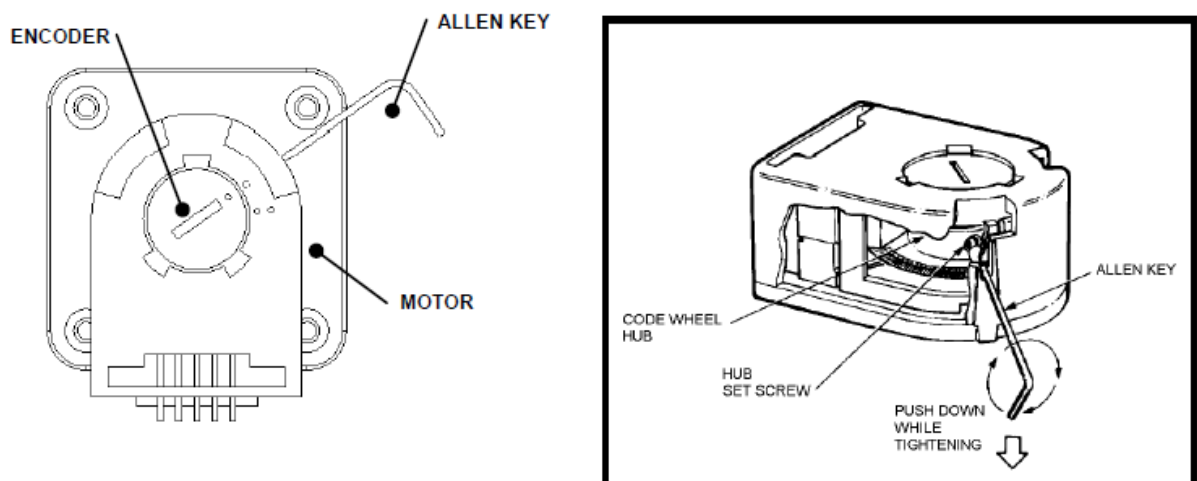

Figure O-31: Setting the Encoder
4. Push the Allen Key into the body of the encoder to ensure that it is properly seated into the code wheel hub set screw. Then, apply a downward force on the end of the Allen Key. (This sets the code wheel gap by levering the code wheel hub to its upper position.) While continuing to apply a downward force, rotate the Allen Key to the clockwise direction until the hub set screw is tight against the idler shaft. Remove the Allen Key by pulling it straight out of the encoder body (Figure O-31).